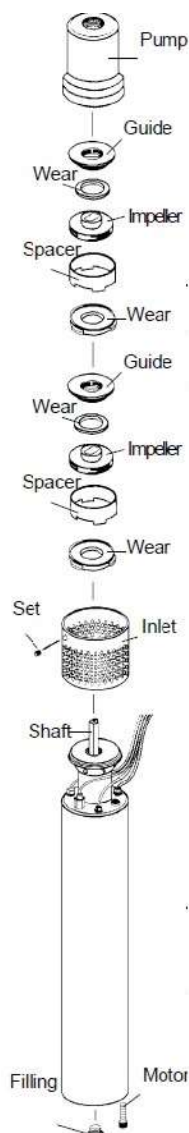

Figure 4-3: RF2 Components
10. Return the impeller assembly to the top of the Suction Interconnector. Refer to Figure 4-3 for the proper sequence.
- Remove the Inlet Screen, Pump Housing, and the impeller assembly (see Figure 4-3).
If pump performance decreases, the impellers may need to be replaced or cleaned. The Redi-Flo 2® can be dismantled and reassembled quickly and easily (see Figure 4-3).
Re-assembly (refer to Figure 4-3)